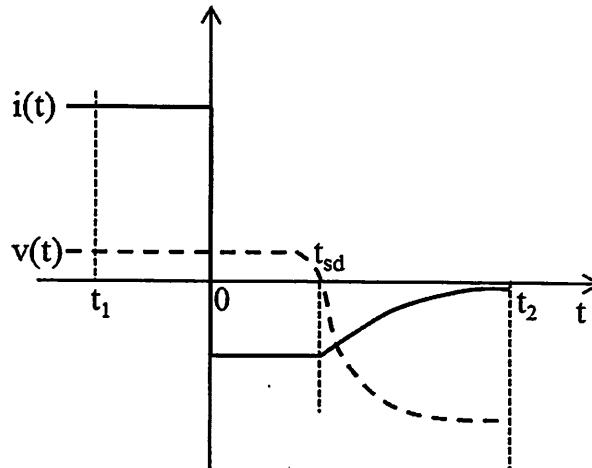

Figure 1.2 The variation of the current $i(t)$ and voltage $v(t)$ of a switching pn diode.
- c) The measurement of the time response of the pn-diode switched from forward to reverse bias is given in Fig. 1.2 (see next page). Sketch, on one figure, the excess minority carrier concentration in one layer of the pn diode as a function of distance, at times $t = t_1$, $t = 0$, $t = t_{sd}$ and $t = t_2$. Assume that the layers are long.